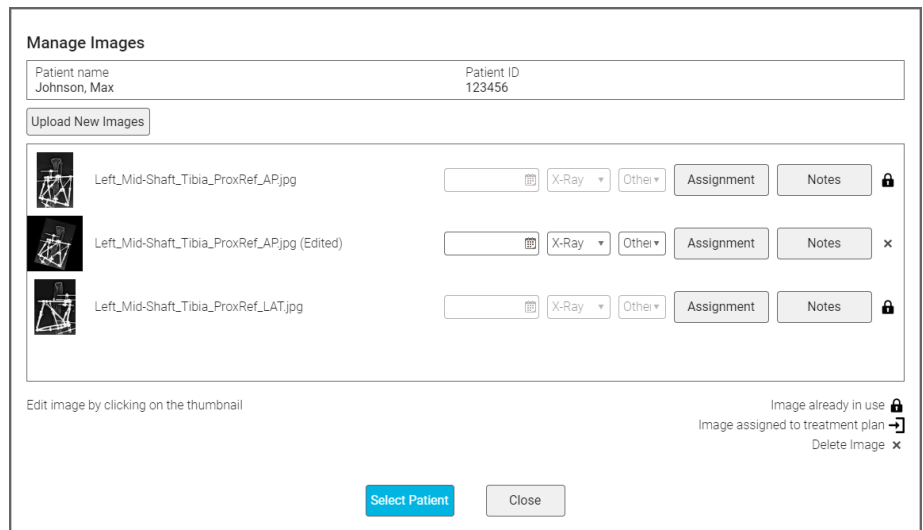

Figure 67 – PFM – Review images window.
Click on the **Save** button and the edited image is automatically named and saved into the Patient Image Database (cf. figure 67).
**Note:** Results of all image edits (flip/rotate) can be visualized immediately in the rendering area (cf. figure 67).